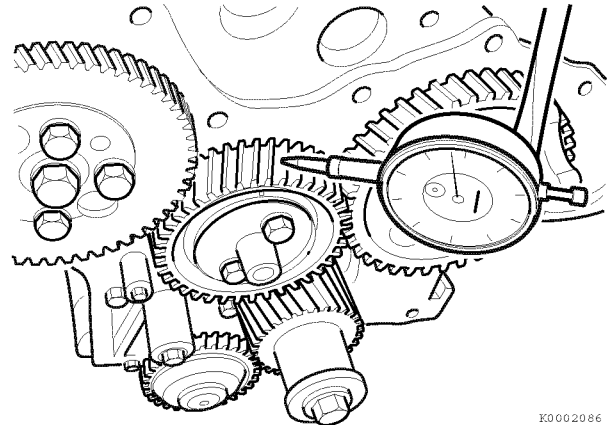

Figure 6-90
1. Install a dial indicator as shown in **Figure 6-90**.